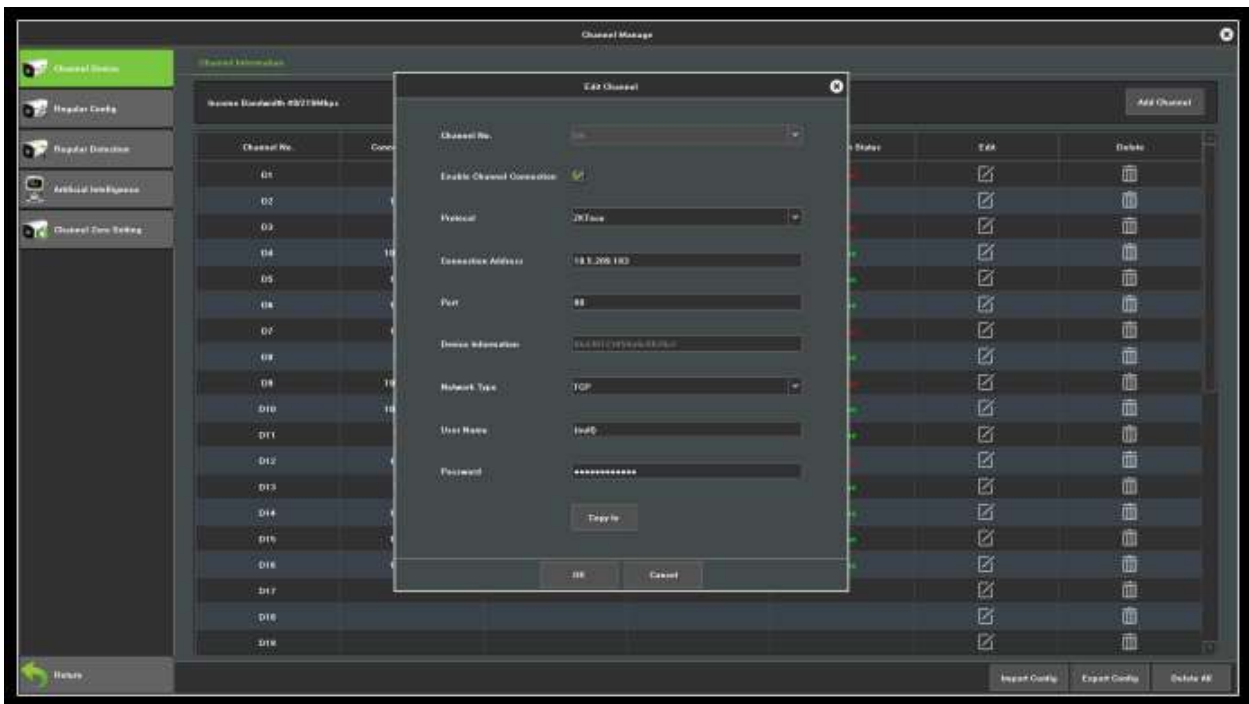

Figure 7.2 Custom Adding IP Camera Interface
4. Or you can choose to custom add the IP camera by editing the parameters in the corresponding text field and then click the **Save** button to add it, as shown in Figure 7.2.